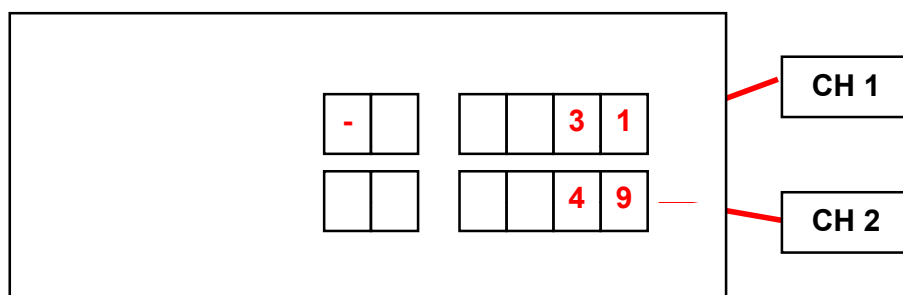

Figure 6.2
- Press [CON] to accept the parameter – panel displays as per Figure 6.2.